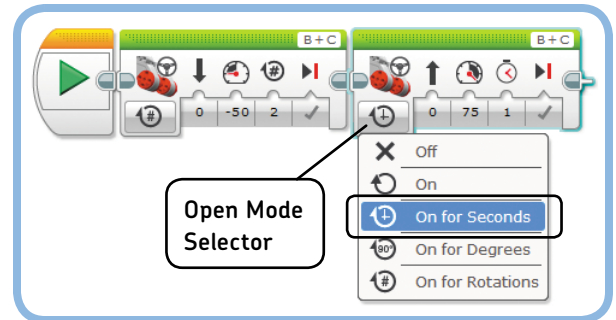

Figure 4-4: Click the Mode Selector of the second block and select **On for Seconds**.
4. Now you want to modify the settings on the second block. This block will make the EXPLOR3R spin quickly to the right for three seconds. First, change its mode to **On for Seconds**, as shown in Figure 4-4.